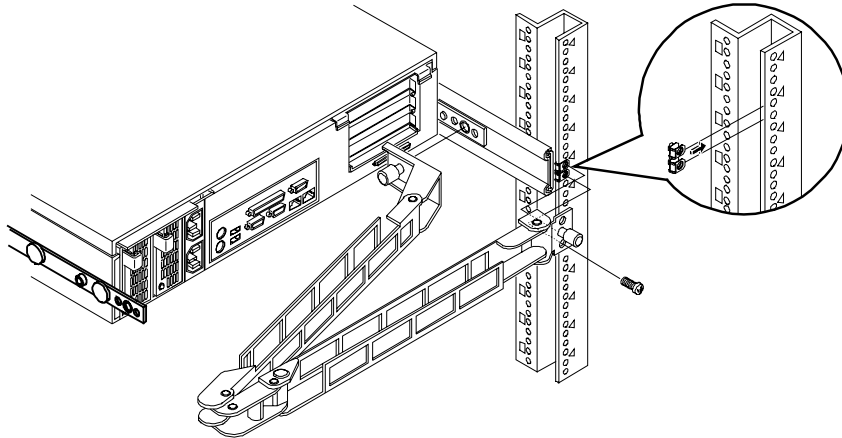

Figure 13-9. Attaching the Cable Management Arm
- a. Attach the clip nuts to the 1st and 2nd holes of the rear right column (counting from the base of the HP Netserver). See Figure 13-9.
- a. Insert the inner flange thumbscrew into the hole in the chassis slide mount. See Figure 13-9.